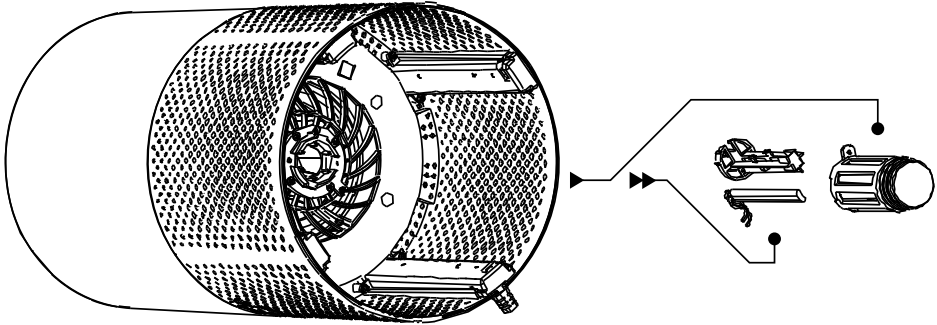

fig. 3
2. The integrated filter (7) can be periodically dusted with a damp cloth from the side of the initial filter (externally). You can also gently vacuum the filter on low suction power and with a fine bristle brush. Do not immerse the filter in water or disassemble it. If the air purifier indicates that a filter replacement is necessary with the (4f) light, replace the filter with a new one (see: FILTER INSTALLATION AND REMOVAL DESCRIPTION). Under normal conditions, the air purifier will indicate it is necessary to replace the filter every six months, but this time may be reduced if working conditions are demanding. Replace the filter every 6 months, even if not prompted by the device.
3. While replacing the filter, clean its housing (8) with a damp cloth.
- Remove the filter from the device (7)
- Place the device on its side (fig. 3)
- unscrew the UV lamp housing fixing screw (9)
- Install the filter (7) in the air purifier